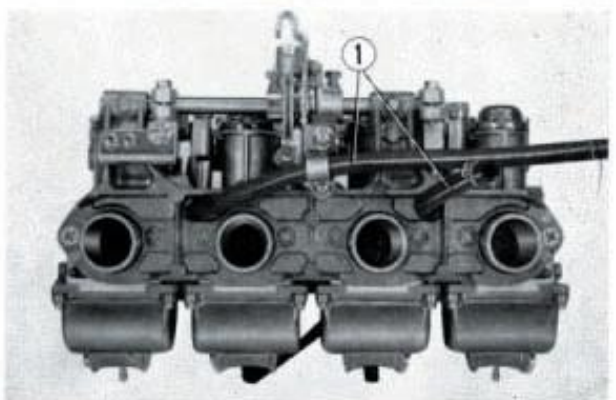

Fig. 193 ① Fuel tubes
② Dust plate B ④ Nuts
13. Install and route the two fuel tubes as shown in Fig. 193.